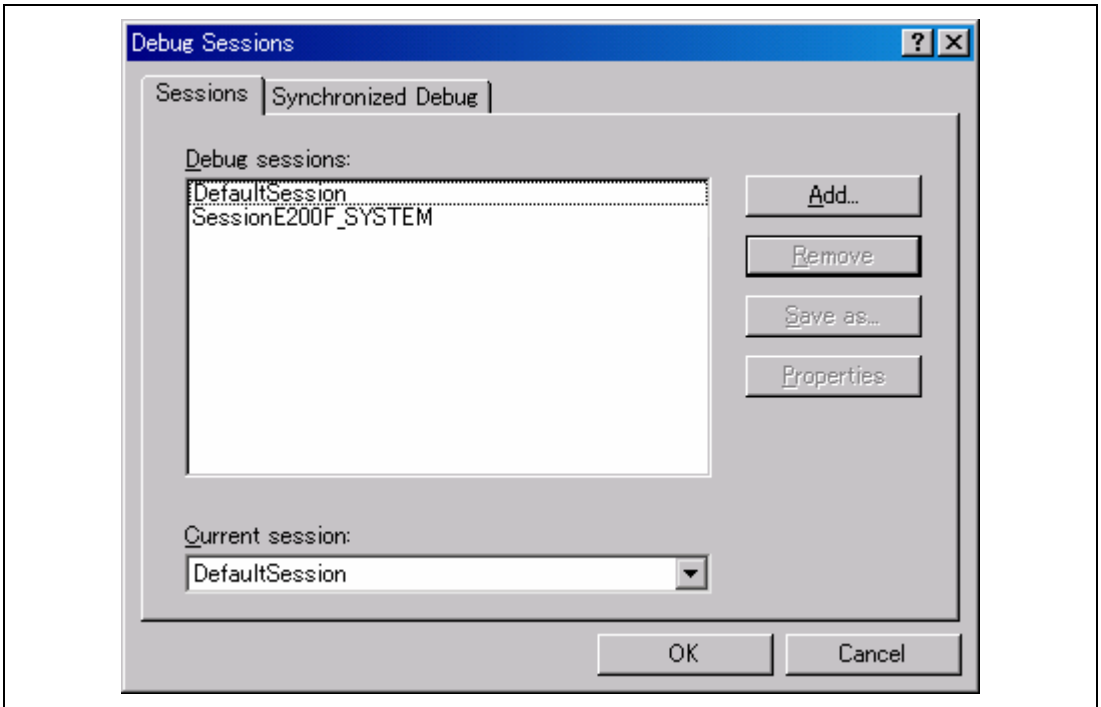

Figure 4.31 [Debug Sessions] Dialog Box
1. Select [Options -> Debug Sessions...]. This will open the [Debug Sessions] dialog box (figure 4.31).
1. Select [Options -> Debug Sessions...] to display the [Debug Sessions] dialog box (figure 4.31).